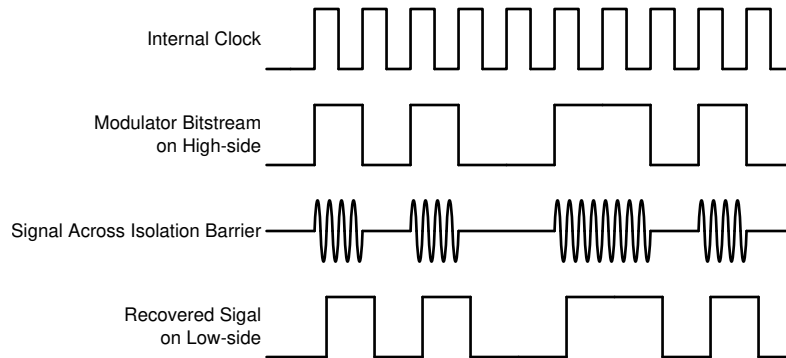

Figure 7-1. OOK-Based Modulation Scheme
The AMC3301-Q1 uses an on-off keying (OOK) modulation scheme, as shown in Figure 7-1, to transmit the modulator output bitstream across the capacitive SiO₂-based isolation barrier. The transmit driver (TX) shown in the *Functional Block Diagram* transmits an internally generated, high-frequency carrier across the isolation barrier to represent a digital *one* and does not send a signal to represent a digital *zero*. The nominal frequency of the carrier used inside the AMC3301-Q1 is 480 MHz.